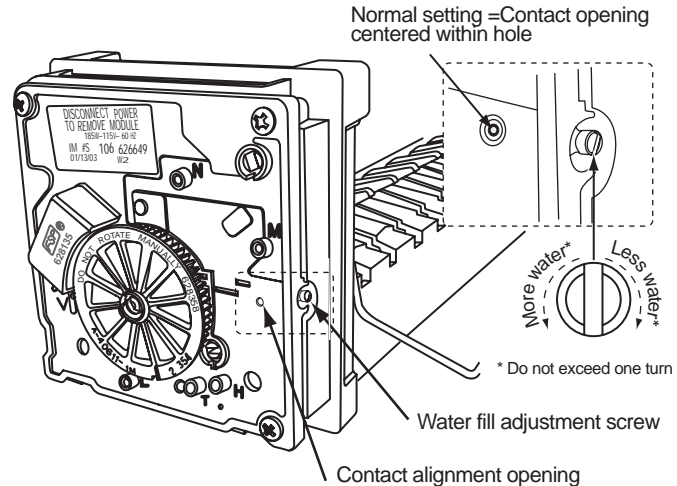

Figure 55. Water fill adjustment screw
5. Locate the screw and contact alignment opening shown in Figure 55.
6. Determine the position of the hole in the internal contact plate. *Do not adjust the water fill adjustment screw if the hole is centered within the housing hole.* See Figure 55.
7. To readjust the water fill level turn the adjustment screw clockwise or counterclockwise as required until the contact hole is centered in the module hole. See Figure 55.